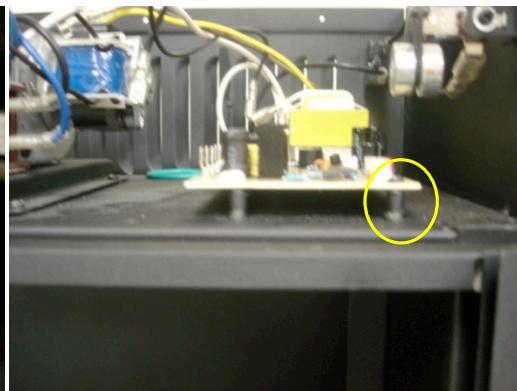

**Figure 1, old PCB, Touch Keypad and standoffs**
- 2) Remove the (12) leads and (1) Touch Keypad cable from the PCB.
- 3) Remove the (4) mounting fasteners and lift the PCB from the insert. Keep the (4) mounting fasteners, they will be reused. **Refer to Figure 1.**